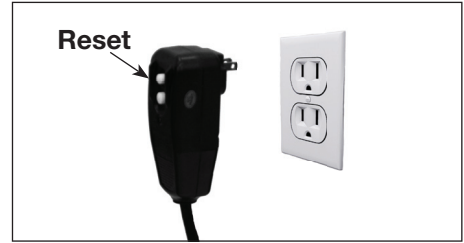

Figure 11 - Grounded plug/reset button
6. Plug the power cord into a grounded 120V outlet, that is on a dedicated circuit. Do not use extension cord. Press the reset button on the GFCI plug adapter. This must be done each time the unit is plugged into an outlet. (Figure 11)